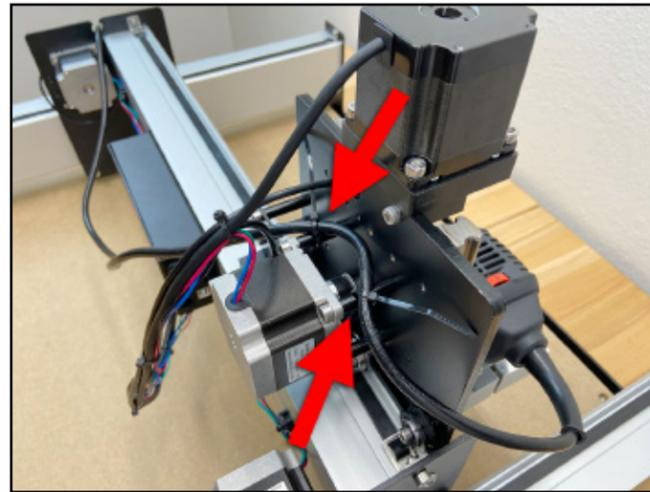

Figure 8-5
1. Route the power cord towards Y1-rail and back behind the Z-Plus. Thread the cord between the X- and Z-proximity cables, toward the Y2-carriage, and let it rest on the top two X-motor standoffs. See **Figure 8-5**.
2. Secure the power cord to the top two standoffs with two (2) cable ties as shown in **Figure 8-5**. Ensure the cord is taut enough that it cannot be pinched between the Y1-carriage and the Z-Plus, yet loose enough that the Z-carriage can move freely up and down.